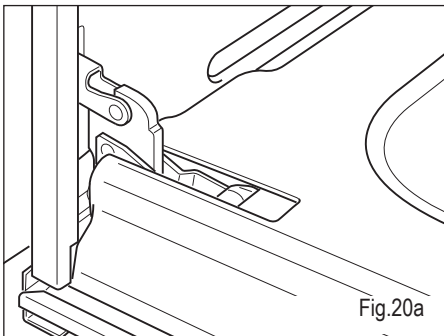

Fig.20a
- Open the door to the full extent (fig. 20a).